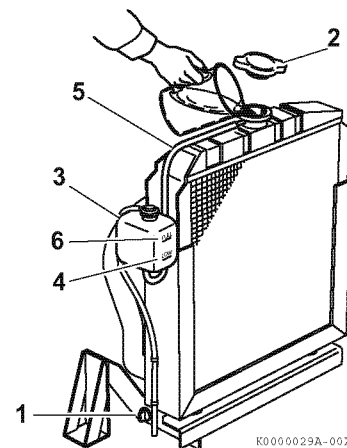
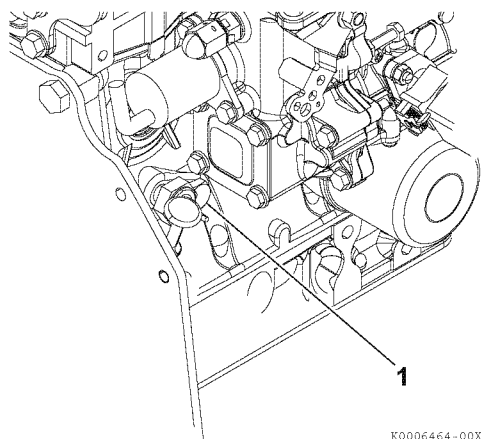

Figure 4-7
Figure 4-8
1. Check to be sure the radiator drain plug is installed and tightened or the drain cock (**Figure 4-7, (1)**) is closed. Also make sure the coolant drain plug (**Figure 4-8, (1)**) in the cylinder block is closed.
3. Remove the radiator cap (**Figure 4-7, (2)**) by turning it counterclockwise about 1/3 of a turn.
6. Remove the cap of the reserve tank (**Figure 4-7, (3)**), and fill it to the LOW (COLD) mark (**Figure 4-7, (4)**) with engine coolant. Install the cap.
7. Check the hose (**Figure 4-7, (5)**) that connects the reserve tank to the radiator. Be sure it is securely connected and there are no cracks or damage. If the hose is damaged, engine coolant will leak out instead of going into the reserve tank.
8. Run the engine until it is at operating temperature. Check the level of engine coolant in the reserve tank. When the engine is running and the engine coolant is at normal temperature, the coolant level in the tank should be at or near the FULL (HOT) mark (**Figure 4-7, (6)**). If the engine coolant is not at the FULL (HOT) mark, add additional engine coolant to the reserve tank to bring the level to the FULL (HOT) mark.